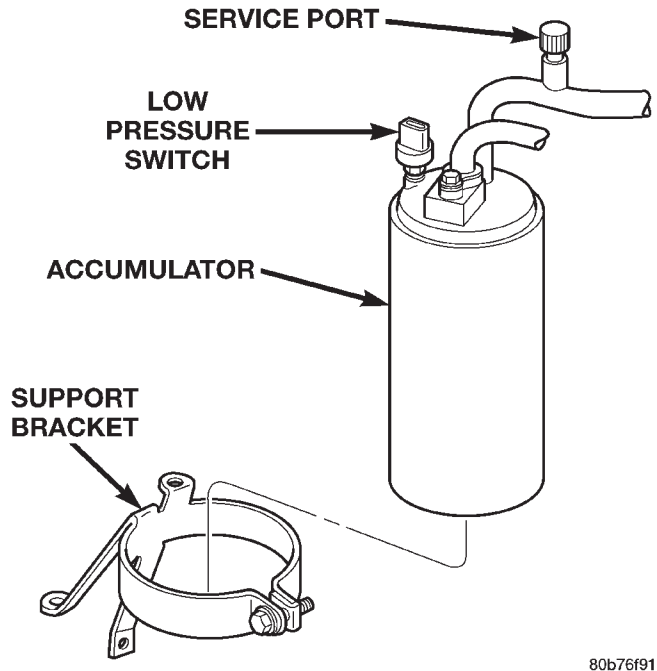

Fig. 59 Accumulator and Support Bracket
- (1) Disconnect and isolate the battery negative cable.
- (2) Unplug the wire harness connector from the low pressure cycling clutch switch on the top of the accumulator.
- (3) Unscrew the low pressure cycling clutch switch from the fitting on the top of the accumulator (Fig. 59).
- (4) Remove the O-ring seal from the accumulator fitting and discard.